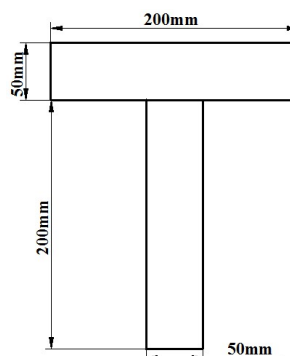

Figure 31
12. A T shaped cross section of a beam as shown in **Figure 31** is subjected to a vertical shear force of 100kN. Calculate the shear stress at the neutral axis and at the junction of the web and flange. M I about horizontal neutral axis is 0.000113m4.